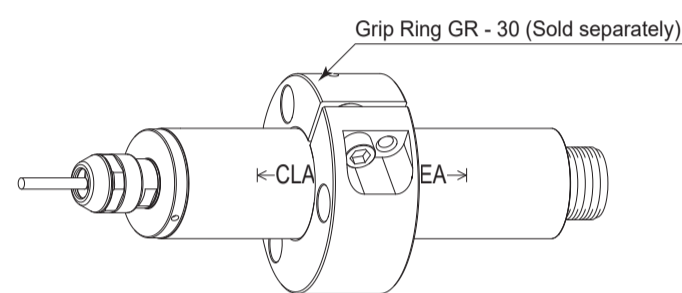

Fig. 9
- * When installing the Spindle, it is recommended to use a "GR-30 Grip Ring (sold separately (Fig. 9))". If the GR-30 Grip Ring cannot be used due to the restriction of dimension and space, install as shown in ② below.